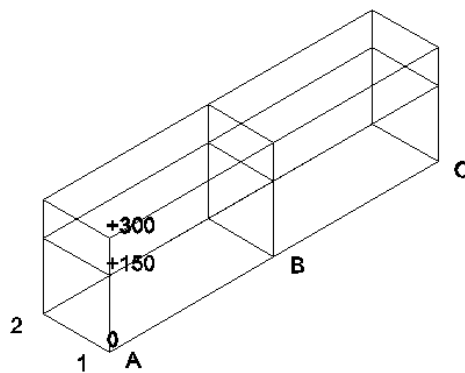

Figure 3-28 Model after creating the grid
3. Next, choose the **Create** button from the dialog box; the grid is created, as shown in Figure 3-28. Note that the view orientation in the figure is set to **SW Isometric**. You can set the view orientation to **SW Isometric** by selecting the **SW Isometric** option from the **3D Navigation** drop-down list in the **View** panel of the **Structure** tab.